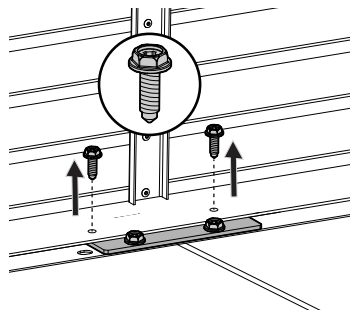

Fig. 22
- c. Install the top trim by fastening four 4H screws along the base of the trim with a  $\frac{5}{16}$ " socket wrench (Fig. 22).